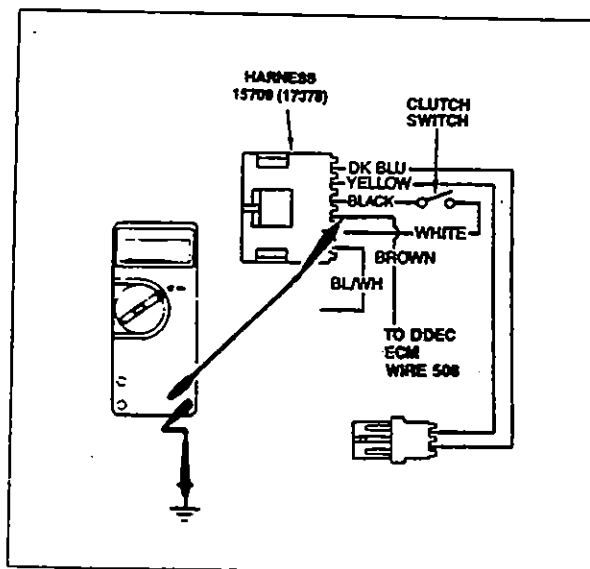

Fig. 1.1.25
**Correction:** Disconnect 015709 (017378) harness from 017179 module. Start the engine. Turn the engine brake switch OFF. Place the positive probe of the voltmeter at the terminal of the BROWN wire and the negative probe on ground (Fig. 1.1.25). Increase engine RPM to rated engine speed. The voltmeter should measure +12 VDC. Release throttle; voltage should drop to 0 VDC. When the engine reaches idle, the voltage should again read +12 VDC. If the voltage does not change, check connections and wiring. If problem continues, have the engine ECM checked.